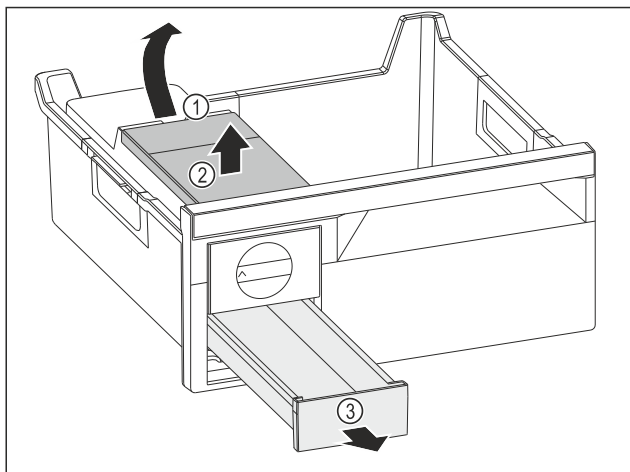

Fig. 111
- Removing the water tank: Lift the water tank by the recess Fig. 111 (1).
- Remove the water tank Fig. 111 (2) upwards.
- Remove the ice cube drawer Fig. 111 (3) to the front.